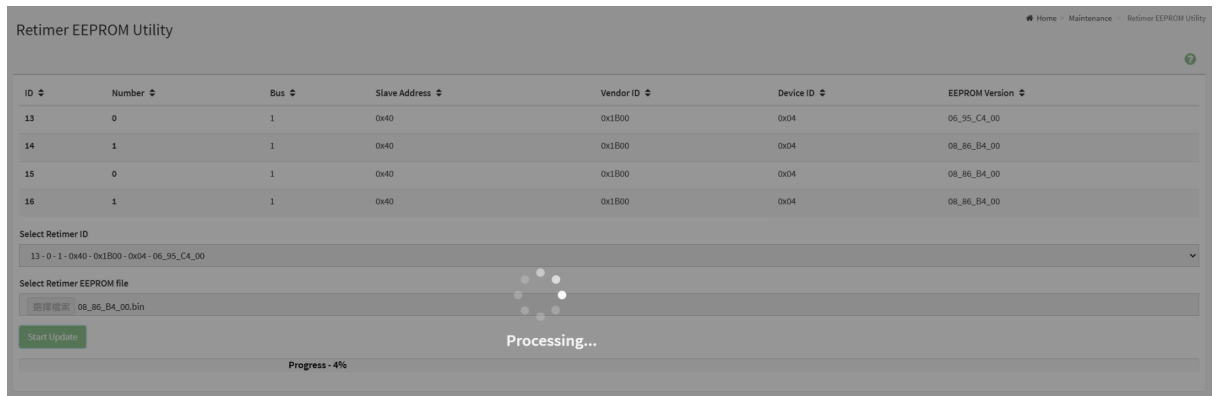

Figure 115. Firmware update progress status
4. Monitor the status via the progress bar (see Figure 115).